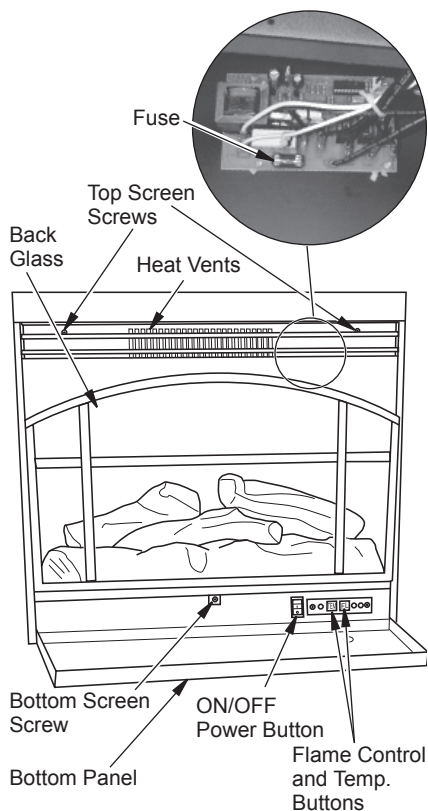
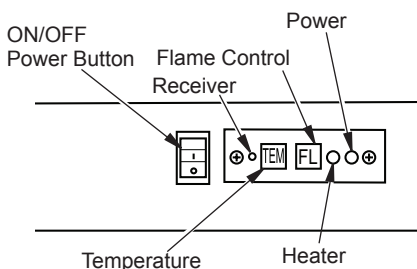

Figure 2 - Product Identification
Figure 5 - Controls For Electric Fireplace
The controls (see Figure 5) are located behind the bottom panel. Pull gently on bottom panel to open.
2. **Main ON/OFF Power Switch and LED:** This switch is located on the right side of the control panel. The power LED will light up when the unit is on (see Figure 5). When unit is on, the default settings for the fireplace is low background lighting and high ember bed and flame and the heater is off.
3. **Temperature Control Button and LED:** This button is located to the right of the Remote Control Receiver (see Figure 5). The LED is located to the right of the Flame Button. Push button to cycle through settings. When this button is pushed the LED will come on. When heater is on heat will emit through vents located in the middle of the top louver panel (see Figure 2, page 3).
4. **Flame Control Button:** This button is located to the right of the Temperature Button (see Figure 5). After power is on, push the Flame Control Button to adjust flame and ember bed brightness. Press and release the Flame Control Button to cycle through LO, MED, HI and OFF.